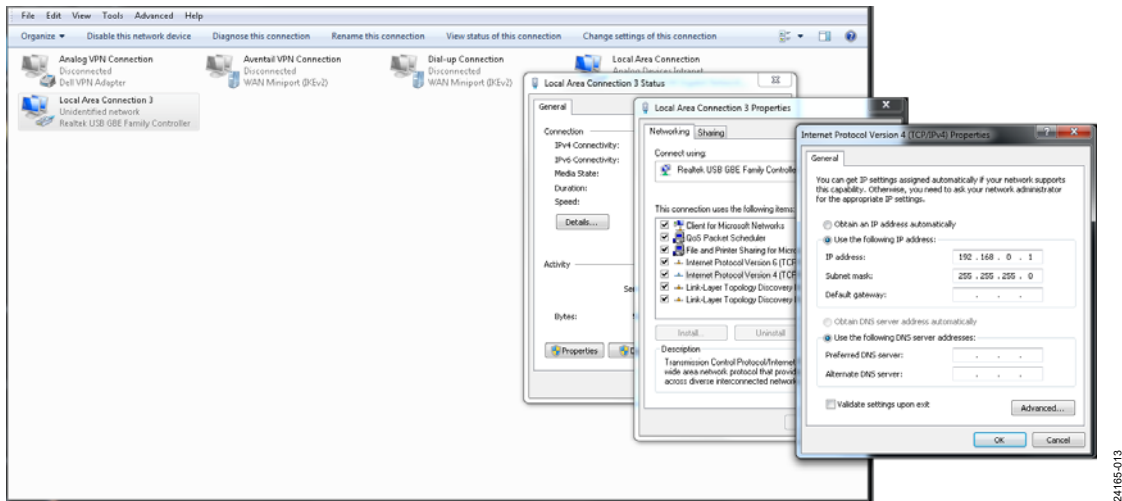

Figure 12. Internet Protocol Settings
6. Double click the **Local Area Connection** icon that appears (Figure 12 shows **Local Area Connection 3** as an example).